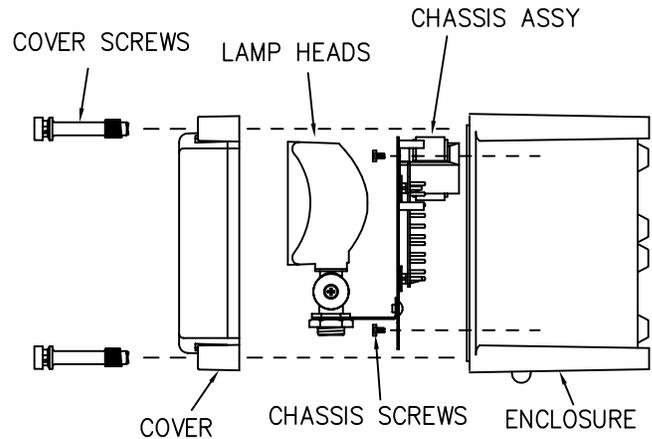

FIG. 1
2. Remove cover and chassis assy. (Fig. 1)